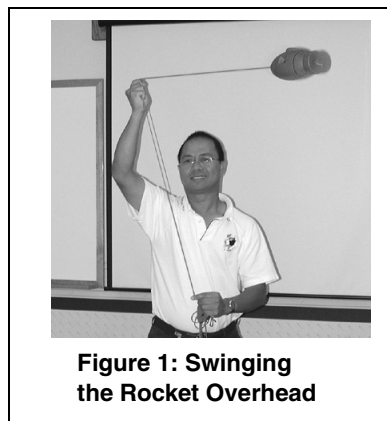

Figure 1: Swinging the Rocket Overhead
4. Swing the Doppler Rocket around in a circle over your head (See Figure 1). A period of about one second will allow students to hear the Doppler shift.